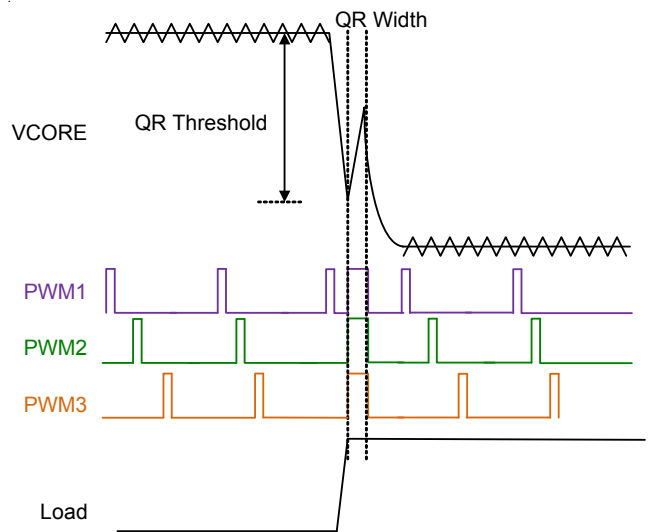
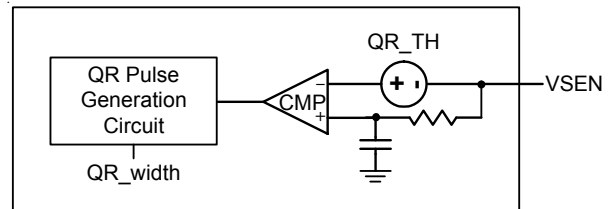

Figure 22. Quick Response Mechanism
Figure 23. Simplified QR Trigger Schematic
When the transient load step-up becomes quite large, it is difficult for loop response to meet the energy transfer. Hence, that output voltage generate undershoot to fail specification. The RT3606BE has Quick Response (QR) mechanism being able to improve this issue. It adopts a nonlinear control mechanism which can disable interleaving function and simultaneously turn on all UGATE one pulse at instantaneous step-up transient load to restrain the output voltage drooping, Figure 22 shows the QR behavior.
The output voltage signal behavior needs to be detected so that QR mechanism can be triggered. The output voltage signal is via a remote sense line to connect at VSEN pin that is shown in Figure 23. The QR mechanism needs to set QR width and QR threshold. Both definitions are shown in Figure 22. A proper QR mechanism set can meet different applications. SET2 can set QR threshold and QR width by internal current source 80µA with multi-function pin setting mechanism.